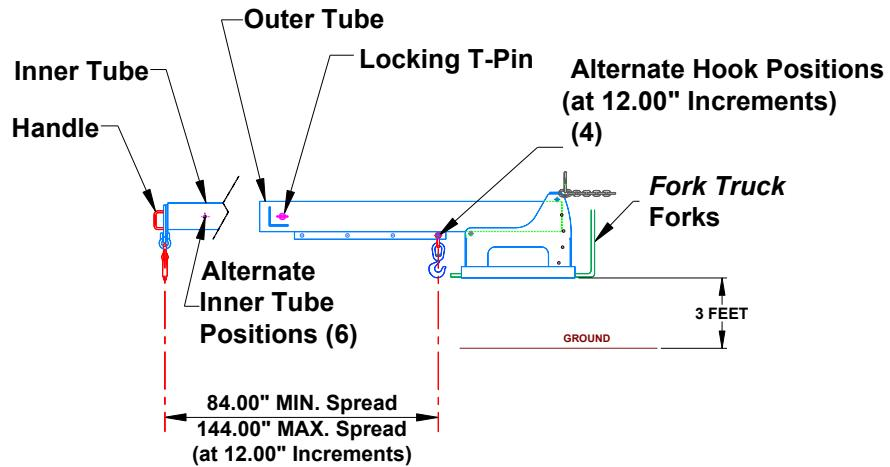

Figure 6
- Position the hooks to achieve proper spread dimensions (see figure 6).